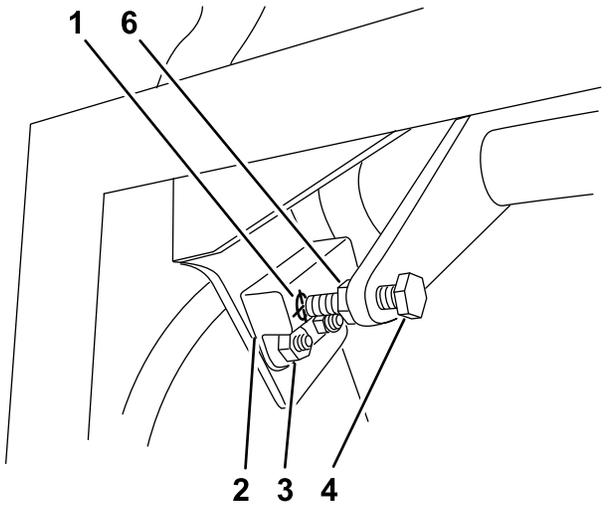

Figure 56
1. Check and ensure the bolt attached to the motion control lever aligns with the proximity switch target (Figure 56).
2. If needed, loosen the bolts and adjust the proximity switch until the target aligns with bolt attached to the motion control lever (Figure 56).
3. Check the distance of the bolt to the proximity switch. It needs to be between 0.050 and 0.090 inches (1.27 to 2.29 mm) (Figure 56).
4. If adjustment is needed, loosen the jam nut and adjust the bolt to the correct distance. Tighten the jam nut after adjusting the bolt (Figure 56).